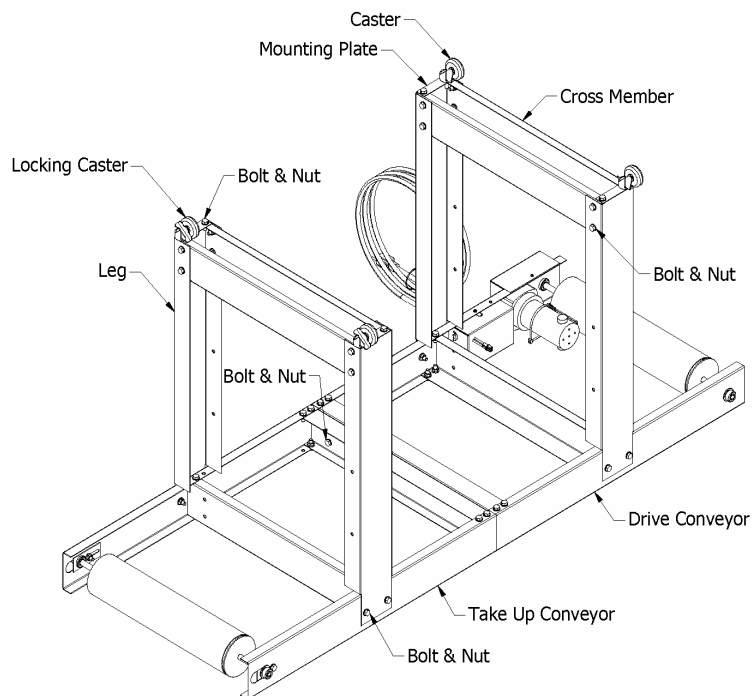

Figure 1
1. Place the Conveyor Drive Assembly on the covered floor with the motor breaker towards the ground (see Fig. 1)
4. Bolt one of the Cross Members between the bases of the Conveyor Leg and another Conveyor Leg using 5/16-18 bolts & nuts. Attach the Cross Member with the open channel facing toward the bottom of the conveyor leg (see Fig. 1).